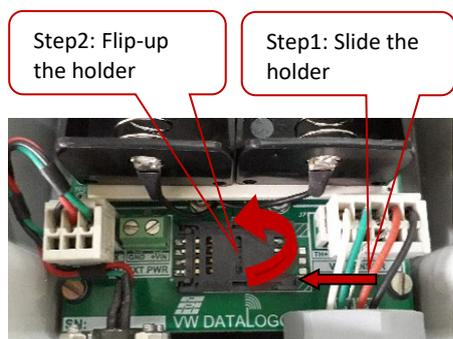

Figure 3-9
- 2 Unlock the SIM card holder by applying the force from side way and pull to flip-up the SIM card holder as explained in Figure 3-9.